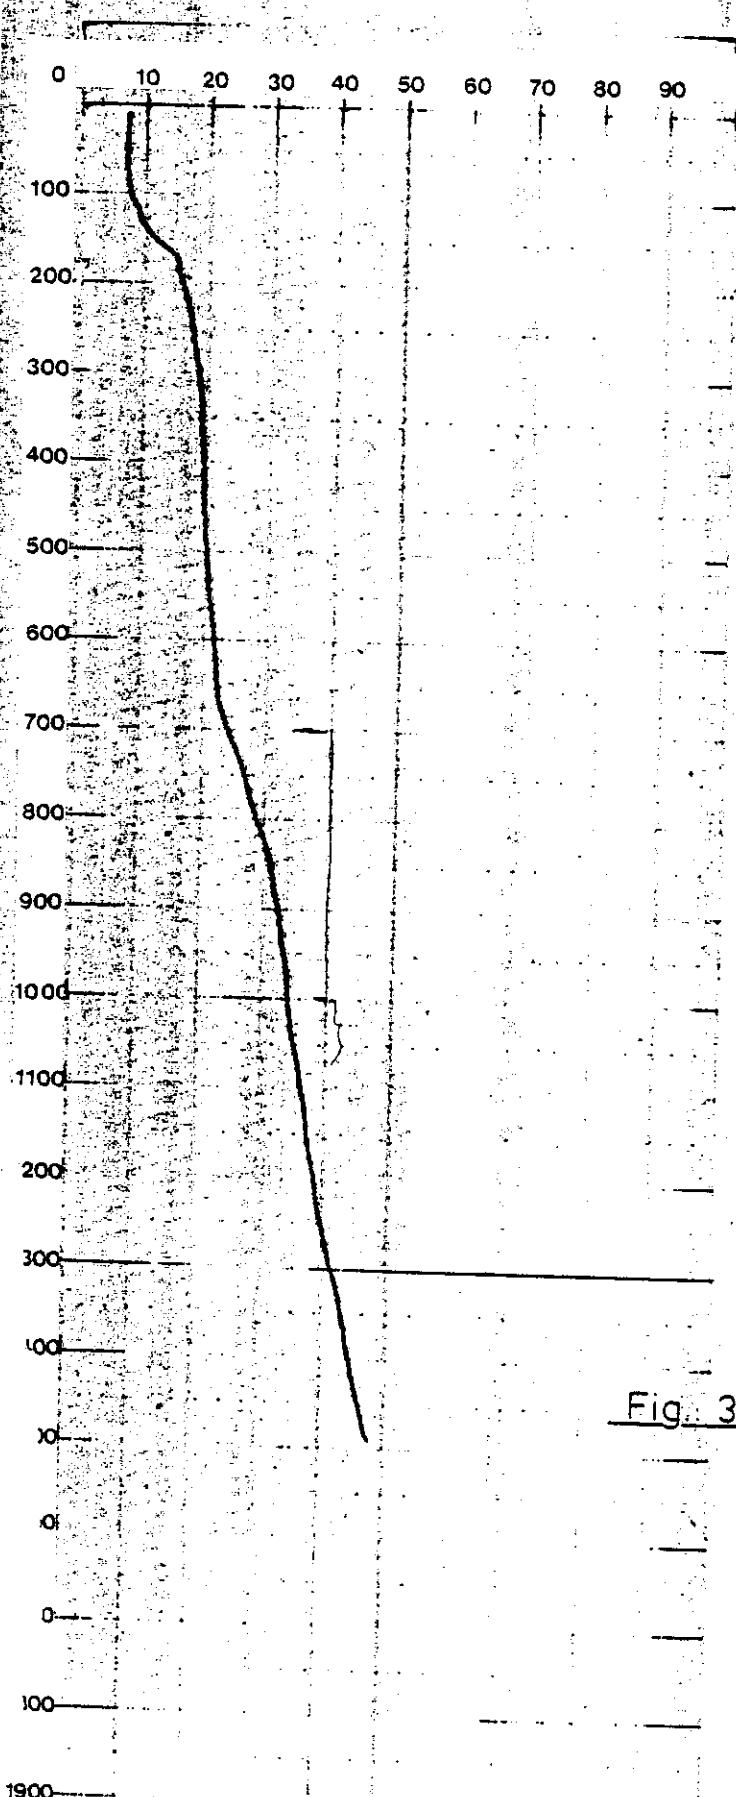

Fig. 3
- Ran temperature log 1500 m to 0 (see Fig. 3)